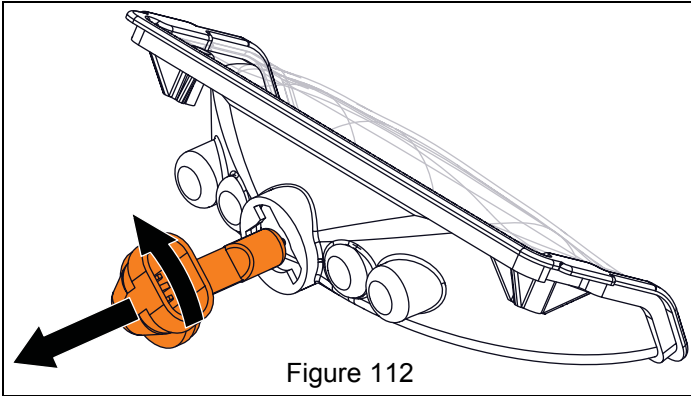

Figure 112
- Turn bulb one-eighth turn counterclockwise and remove from headlight housing. See Figure 112.